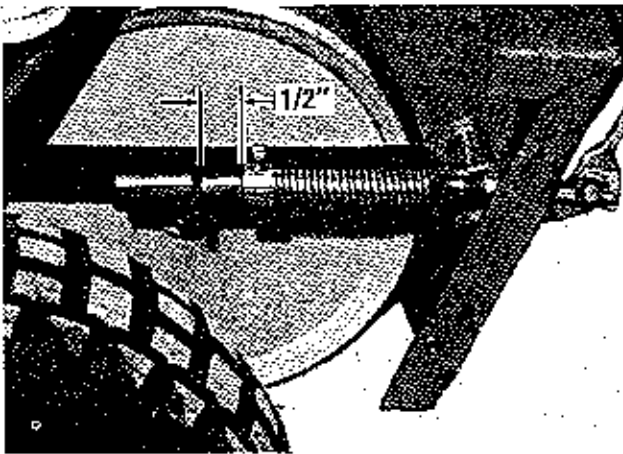

Figure 11
3. Belt tension for the auger drive is regulated by the position of the set collar on the Auger Control clutch rod. With the Auger Control lever engaged, there should be 3/8" to 1/2" clearance between the collar and the front ear of the rod bracket. Loosen the square-head setscrew to position the stop collar. See Figure 11.